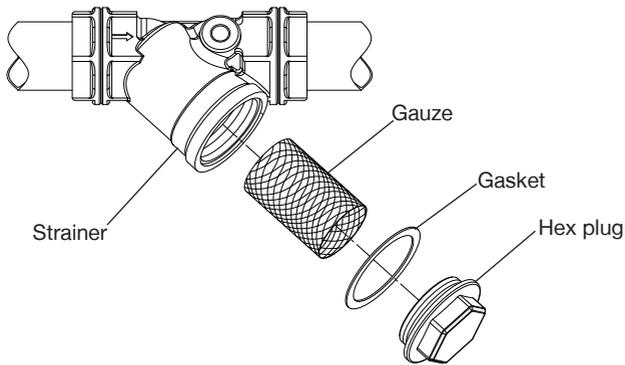

Fig. 8
The strainer is located in the inlet pipework to the pump (Fig. 8). The gauze filter is removed as follows:-
- Remove screwed hexagonal plug from strainer body taking care to collect or absorb any residual water (Fig. 8).